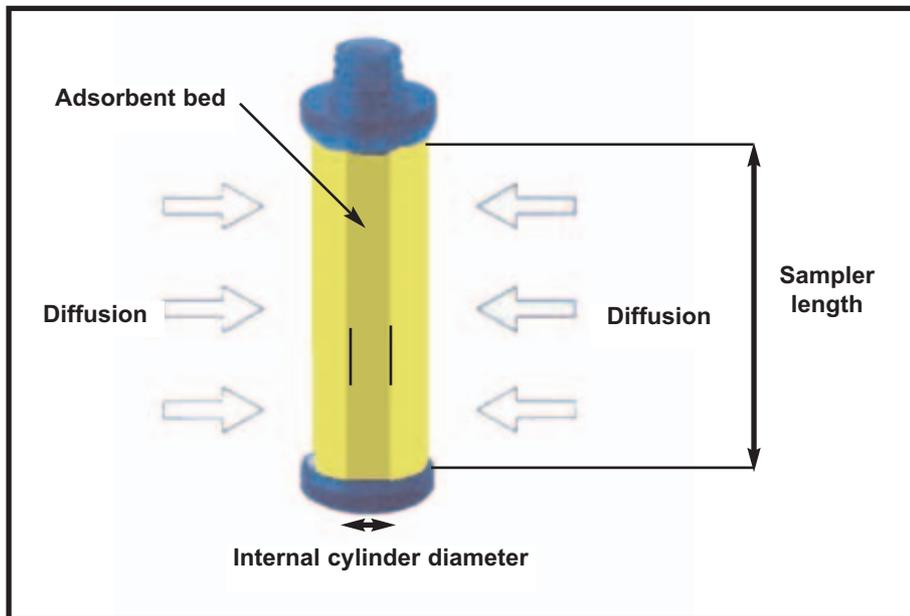

Figure 27. Radial diffusive sampling
8.3.4 Radial Diffusive Samplers (Figure 27)
radius of the tube. They have a cylindrical diffusive surface area equal to 23.6 cm^2 . (Over 100 X greater than tube-type samplers). Due to the high adsorbent surface area combined with short diffusive path they have an effective sampling rate typically 50 - 100 times that of normal axial tubes. Therefore radial diffusive samplers may be used for short duration, low concentration exposure - a scenario previously unsuitable for passive devices. For this short term exposure (up to 6 hours) these tubes have a minimum detection limit of about 50-100ppt. The diffusion barrier is provided by a porous polymer body - See figure 27.